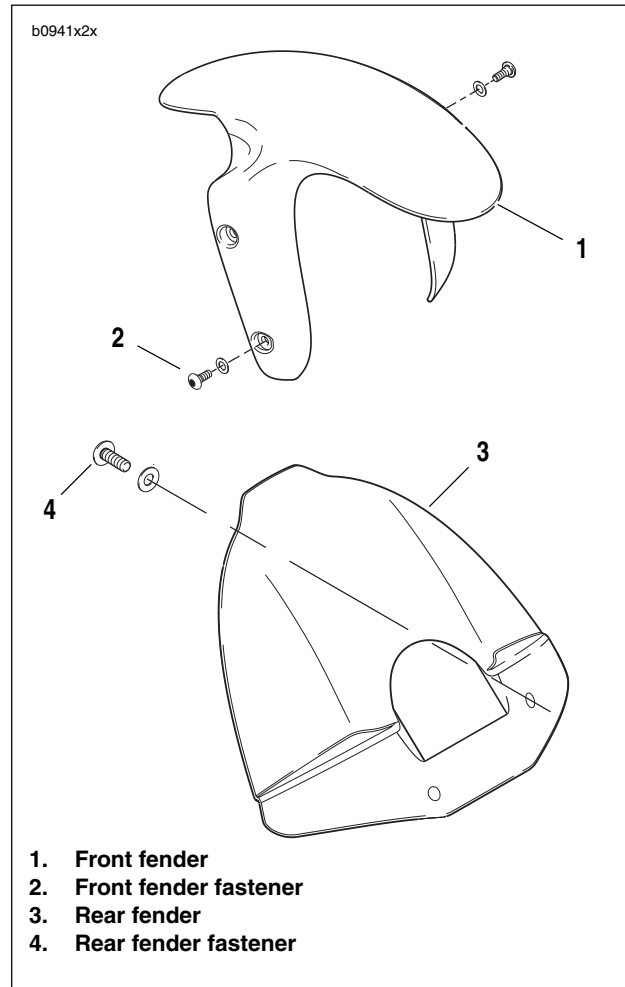

Figure 2-110. Front and Rear Fender
1. See Figure 2-110. Remove fasteners and washers (2) securing the front fender (1) to front forks.
2. Carefully remove front fender (1).
1. See Figure 2-110. Align front fender (1) to fender mounts on front forks.
2. Install front fender (1) with fasteners and washers (2) and tighten to 12-36 **in-lbs** (1-4 Nm).
2. See Figure 2-110. Remove fasteners and washers (4) securing the rear fender (3) to frame.
3. Remove rear fender (3).
1. See Figure 2-110. Align rear fender (3) to frame.
2. Install rear fender (3) with fasteners and washers (4), Tighten to 12-15 **in-lbs** (1-1.7 Nm).